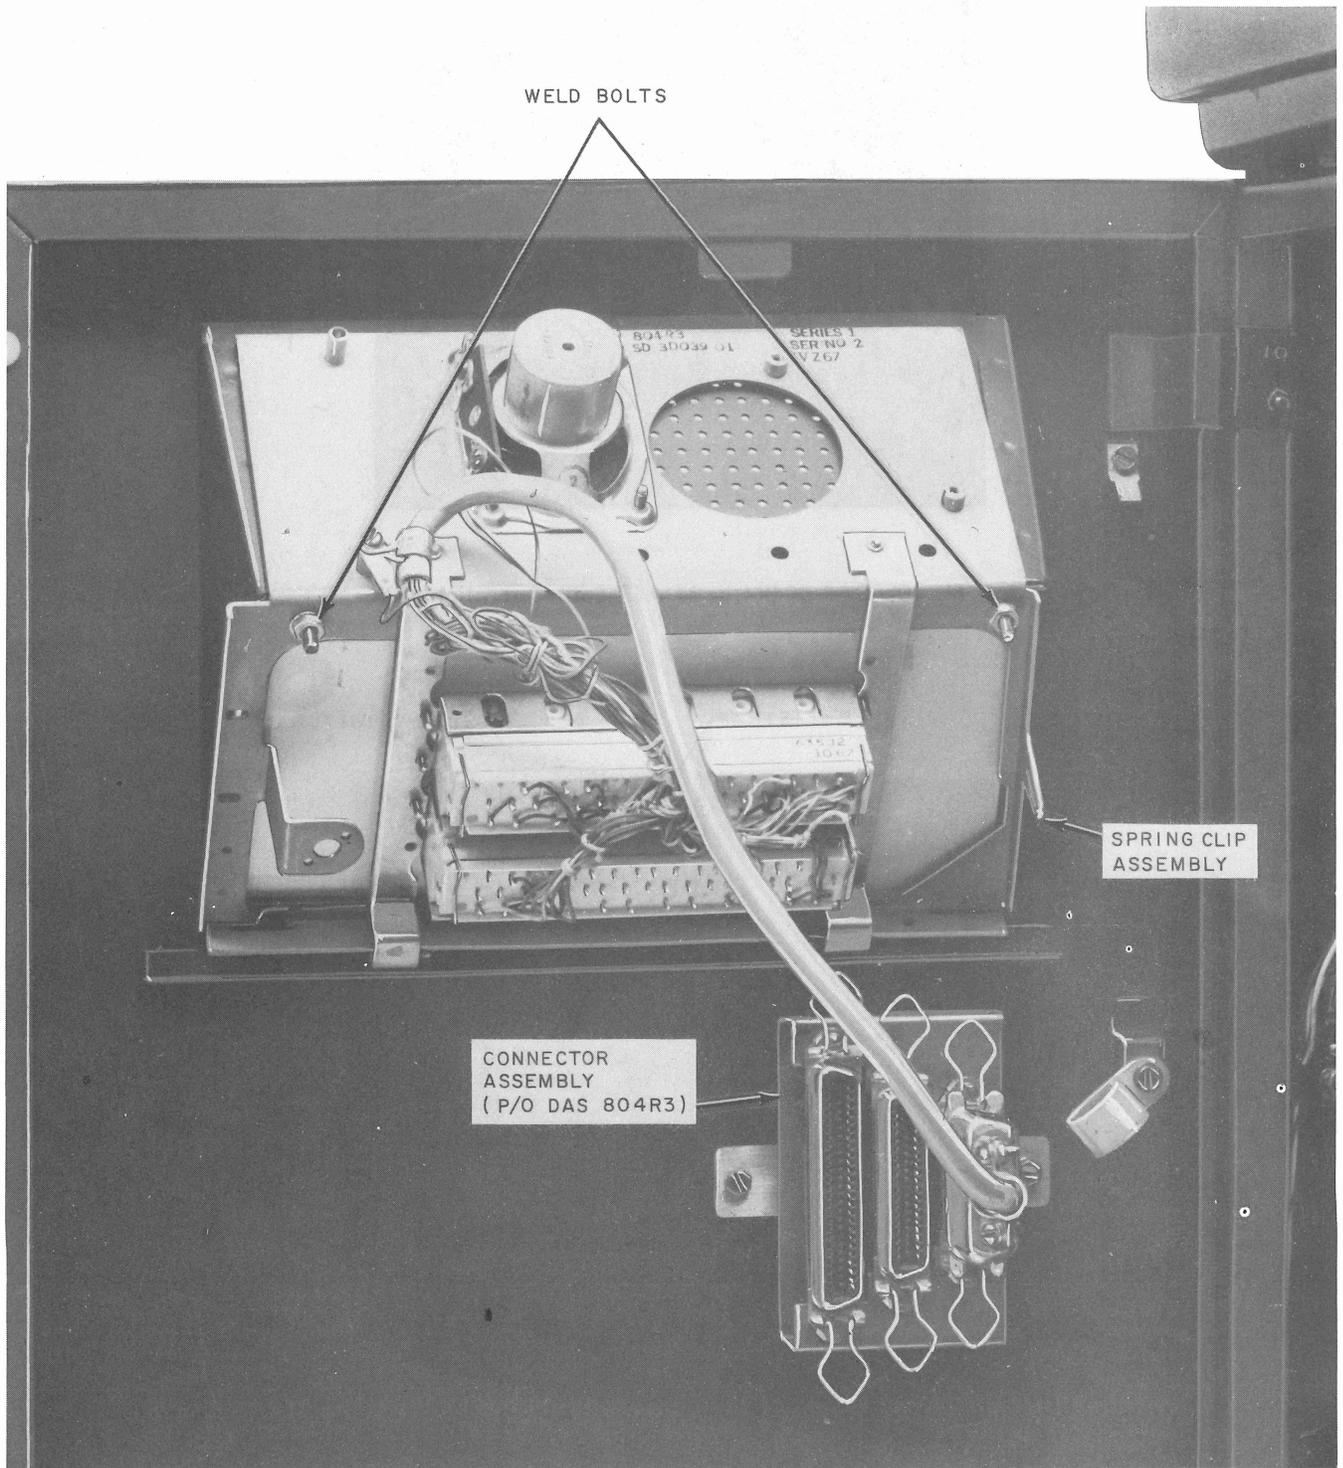

Fig. 8—DAS 804R3 in 37 ROTR
- (1) Open the front access door on the TTY stand.
- (2) Remove the spring clip at the right rear of the attendant set mounting bracket by removing the two mounting screws.
- (3) Lift the left side of the faceplate and disengage the faceplate locking tab.
- (4) Remove the faceplate.
- (5) Disconnect the attendant set plug and, at 37 ROTR TTY (Fig. 8), remove connector assembly.
- (6) Remove two hex nuts and lockwashers from the weld screws on the angle bracket mounting assembly.
- (7) Lower the rear of the attendant set to disengage the locking tabs.
- (8) Remove the attendant set by sliding it to the rear.